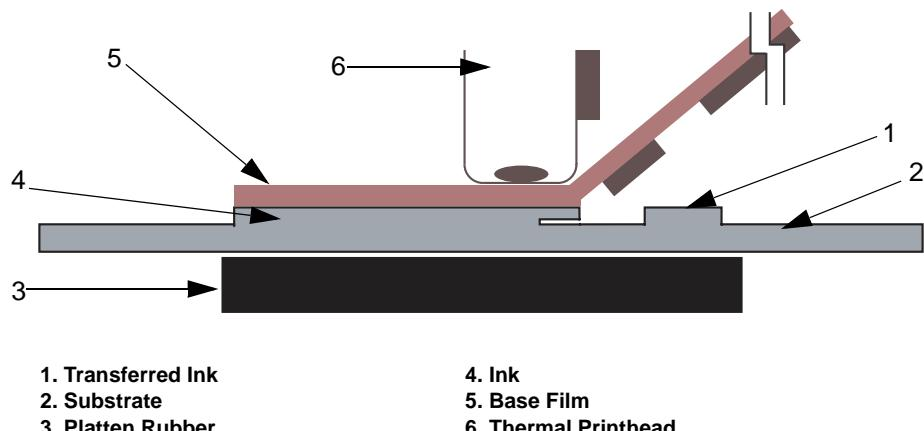

Figure 2-2: Printing Process
The following section explains the theory of printing of the thermal transfer printer (Figure 2-2 on page 2-3):
- The printhead (item 6, Figure 2-2) contains miniature heating elements under a glass coating (300 dpi - 12 dots/min)
- A carrier ribbon (item 5), with ink bonded to one side is used as the printing media
- The printhead presses the thermal transfer ribbon onto the substrate (item 2), with the ink side of ribbon in contact with the substrate